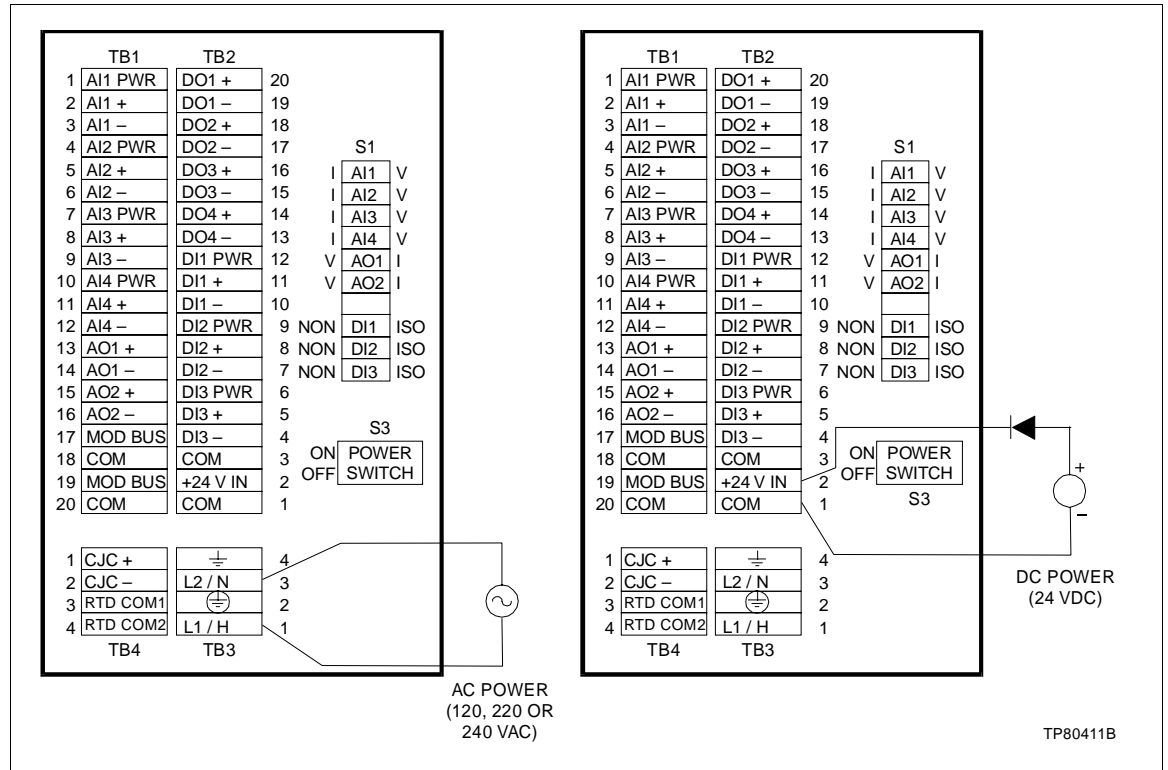

Figure 2-2. DC and AC Power Supply Wiring Connections
1. Connect the specified DC voltage (24 VDC, $\pm 10\%$) to terminal block TB2-2 (+) and TB2-1 (common) as shown in Figure 2-2.
Refer to Figure 2-2 for AC wiring connections.
power supply wiring. Additionally, a blocking diode should be installed in series with the external DC source to prevent back feeding to the external DC source from the controller's power (Fig. 2-2).